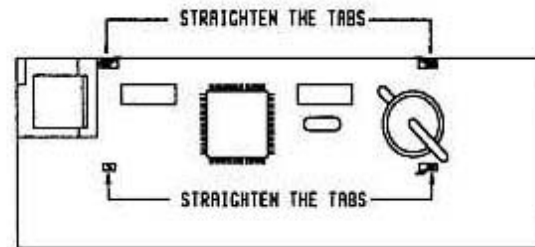

FIGURE 5
23. Straighten the tabs that hold the LCD assembly to the Control board. Carefully pull the LCD assembly off the Control board (do not break the flex cable). Figure 5.